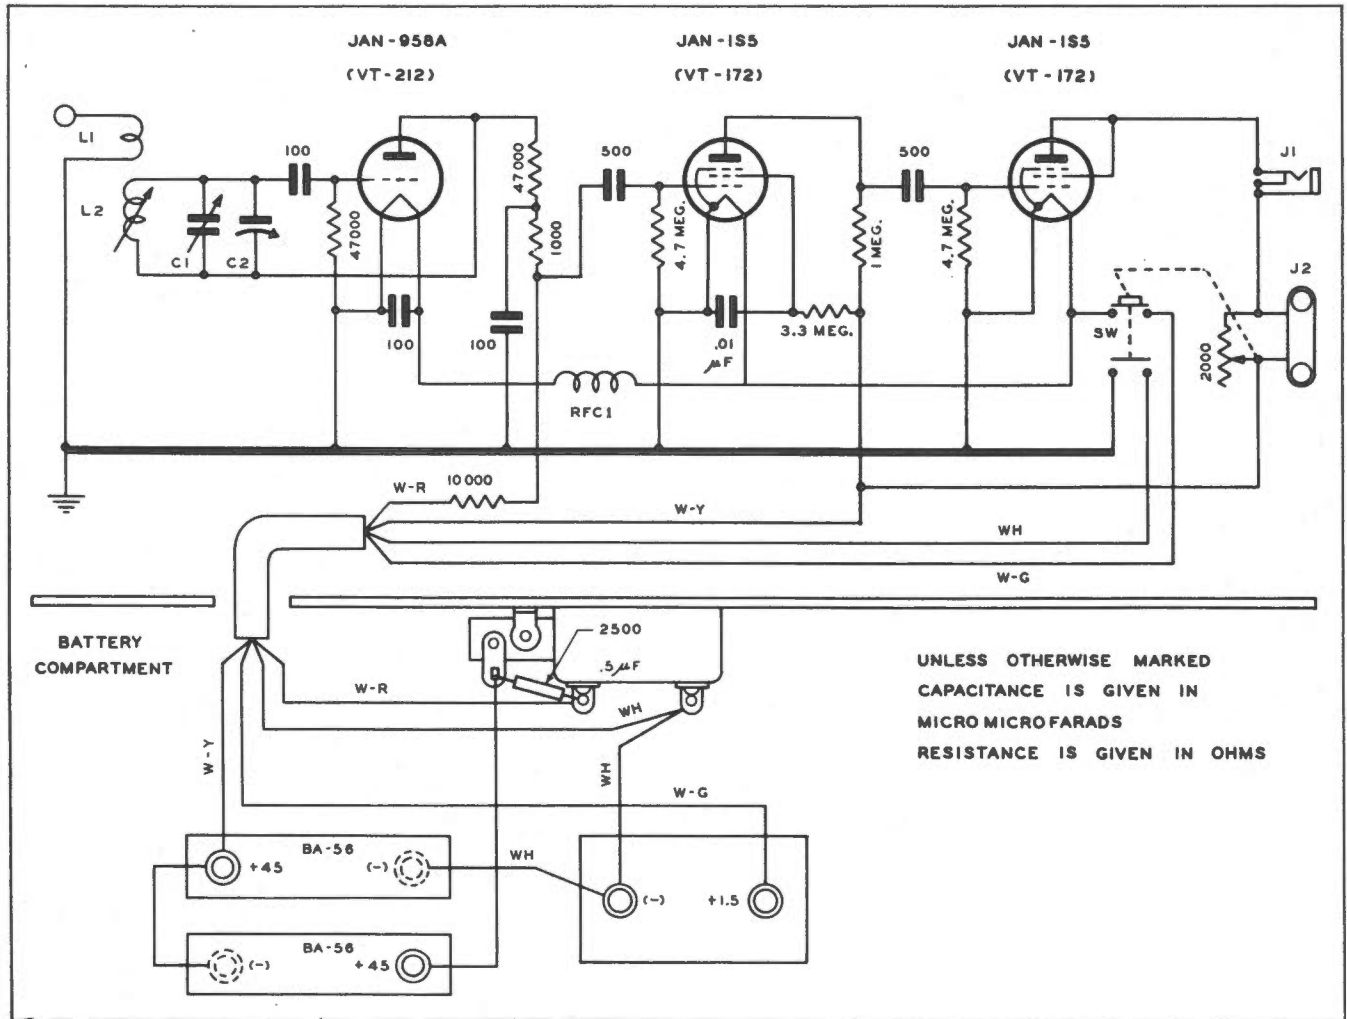

Figure 5-10. Monitor BC-1255-A—Schematic Diagram
(1) Remove the back cover of the monitor (held by four screws).
(2) Remove the batteries before disconnecting the leads.
(3) Connect the batteries as shown on the chart attached to the back cover of the monitor. (See fig. 5-10.)
(4) Follow the chart or diagram carefully. Incorrect battery connections will burn out all tubes.
(5) Carefully replace batteries and surplus cable in the battery compartment and fasten the cover in